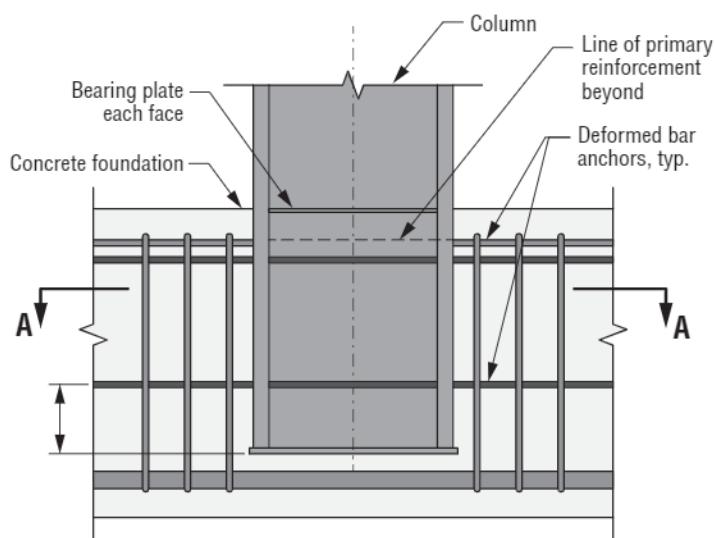
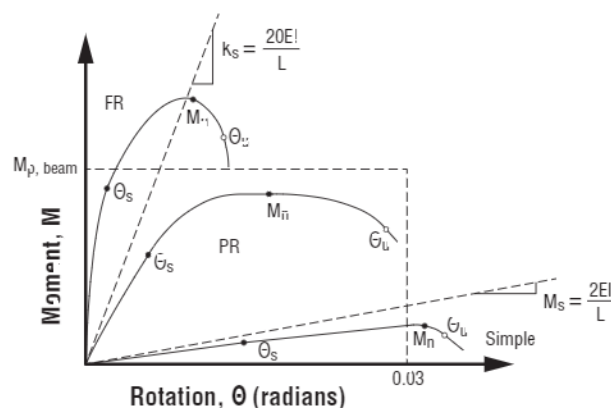
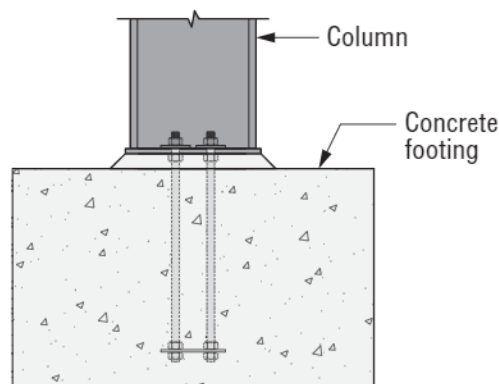

Figure D7.1 — Fixed-Base (FR) Connection in AISC Seismic Design Manual
Figure D7.2 — Connection Classification per AISC 360-10
Figure D7.4 — Pinned-Base (Simple) Connection in AISC Design Guide #1
Column base fixity has a considerable effect on the performance of moment frames. Currently, engineers assume either a fixed-base connection (Figure D7.1) or a pinned-base connection (Figure D7.4) in the analysis of moment frames. In reality, the performance of the connection is in between the two limits. Figure D7.2 shows the AISC definition of a fixed, a pinned and a partially restrained (PR) connection in a graphical format. Connections are considered fixed when the moment vs. rotation stiffness is greater than  $20 EI/L$  of the member, whereas a connection is considered pinned (simple) when the stiffness value is less than  $2 EI/L$ .